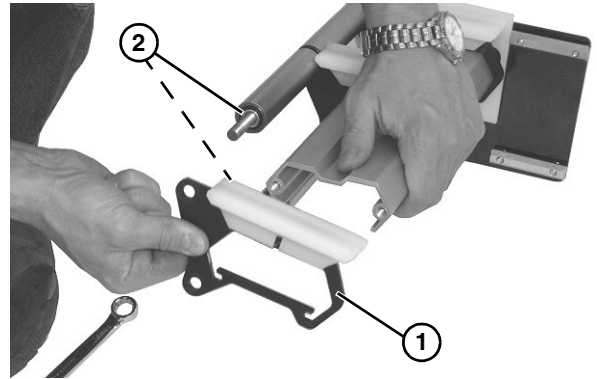

Figure 42
7. Slide the support plate (**Figure 42, item 1**) off of both axle shafts.
8. Remove washer (**Figure 42, item 2**) off of lower and upper axle shafts.